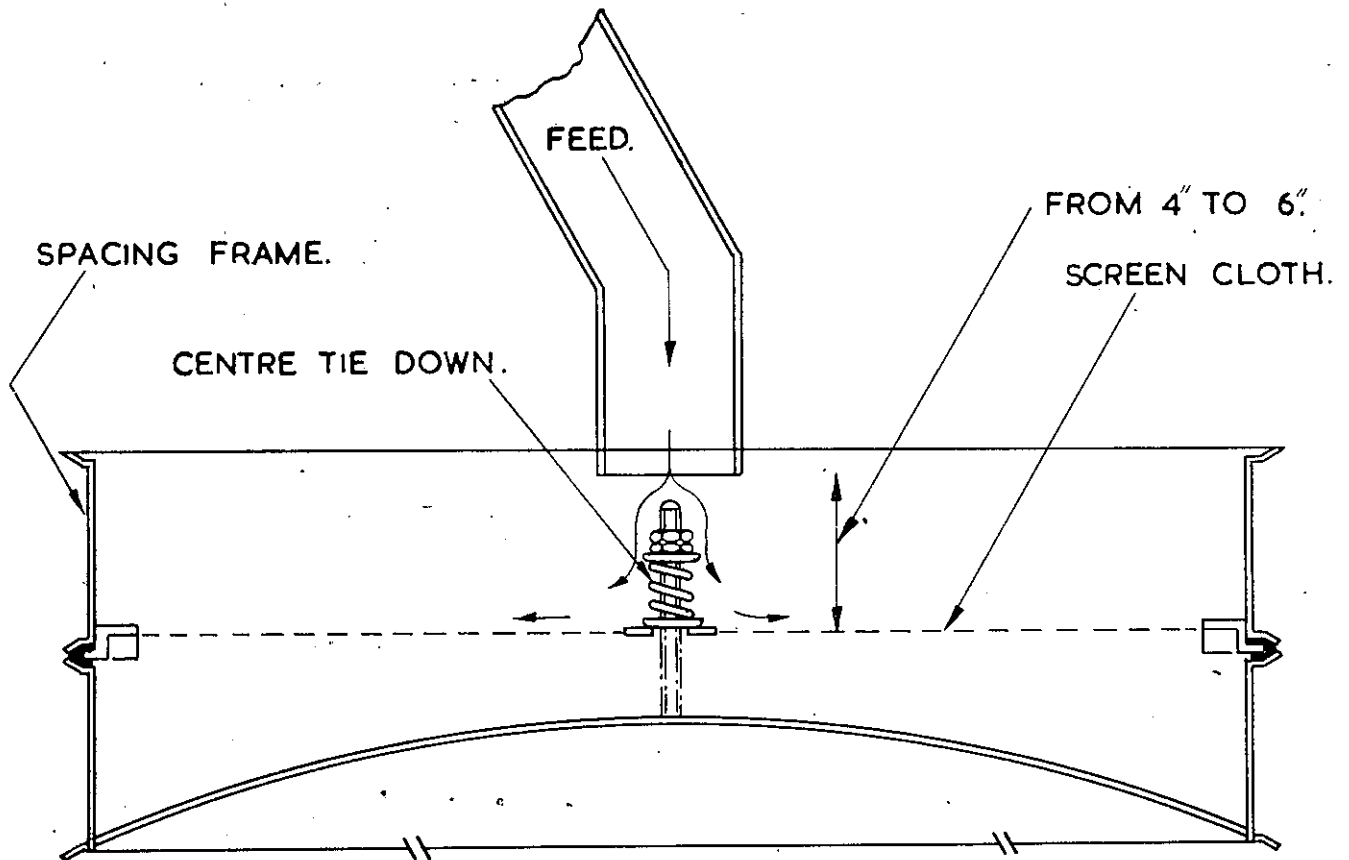

FIG. 1.
- (c) On dry screening applications the initial velocity can usually be reduced sufficiently by installing a baffle near the outlet of the feed pipe. A bend in the feed pipe, as illustrated in Fig.1, page 4, is usually all that is required for most applications.